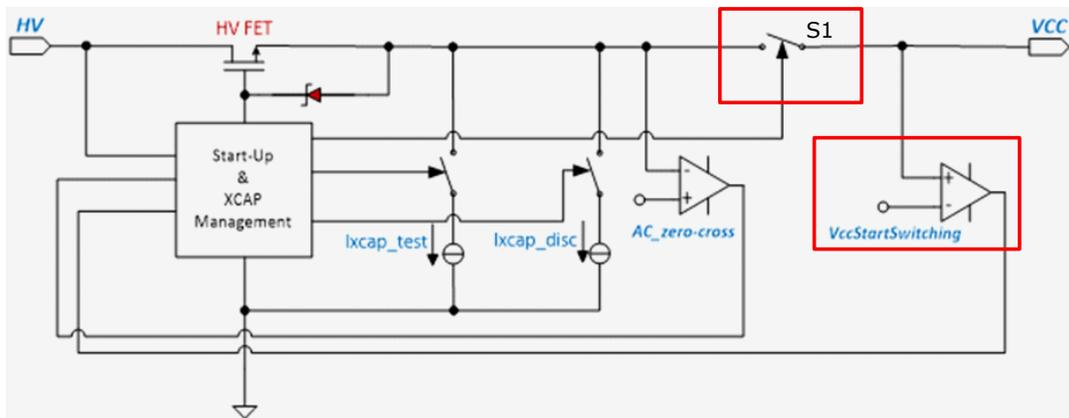

Figure 2-3. HV, VCC, X-cap Discharge Internal Block Architecture
- Figure 2-3 shows the internal architecture of the HV, VCC, X-cap discharge block.
- The switch S1 shown in Figure 2-3 controls high voltage startup for the device. Once the VCC pin exceeds the VccStartSelf (402 and 404 devices), this switch will be turned off which means HV startup is finished.